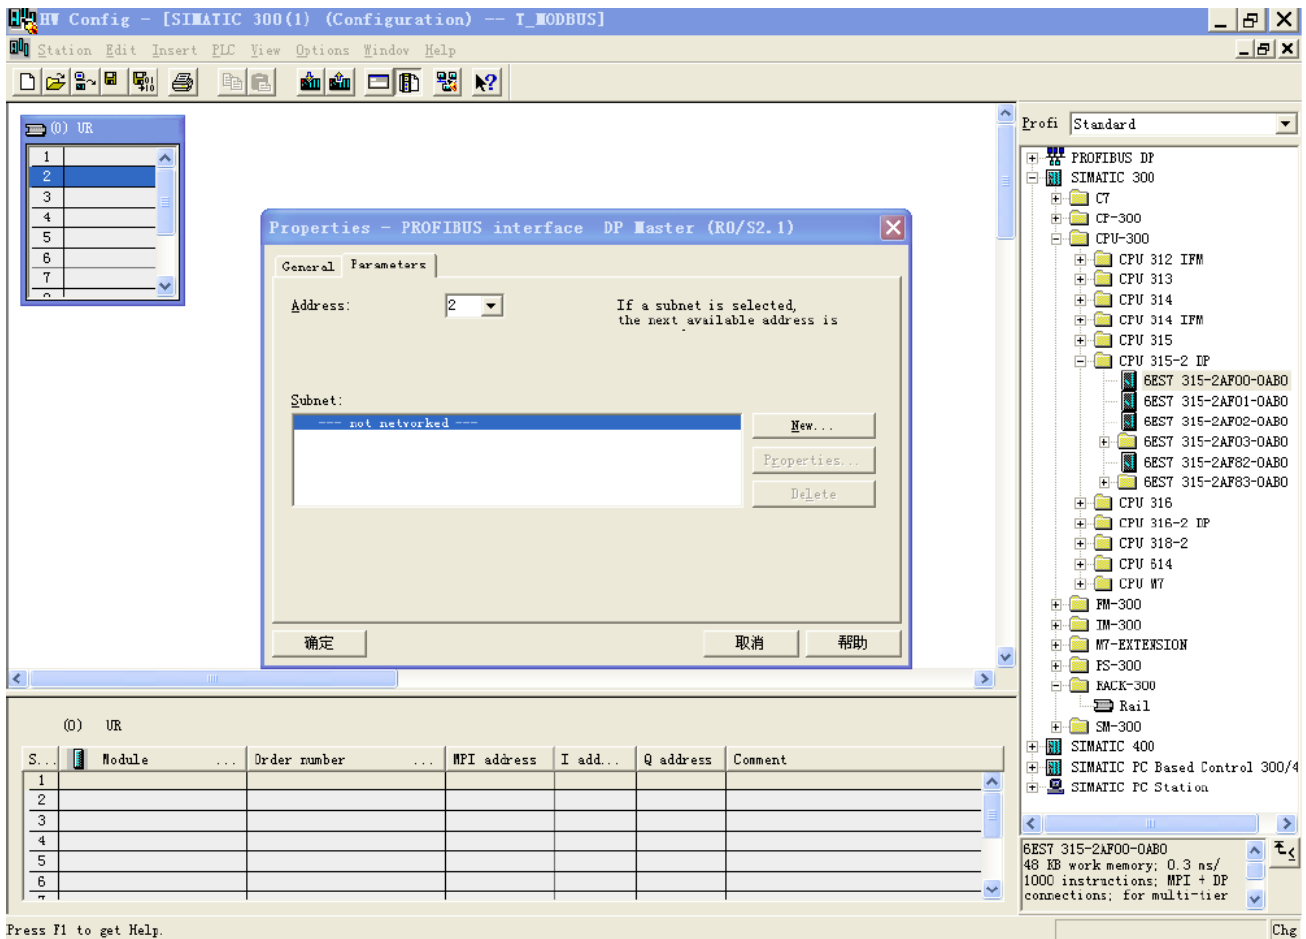

Figure 9
1. Open the configuration setting interface of the project you created, set PLC rack, double-click “Hardware Catalog\SIMATIC 300\RACK-300\Rail”, Figure 9: